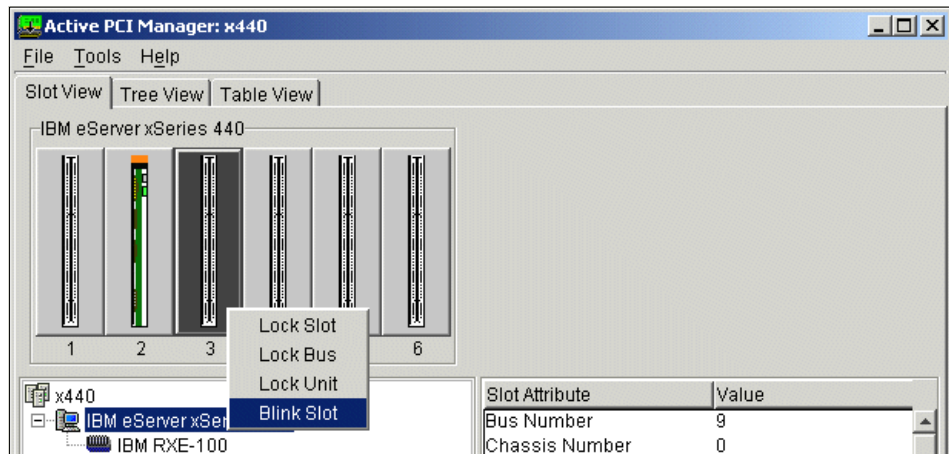

Figure 5-10 Blink Slot
6. From the slot view, select the slot that the Add Card Wizard recommended, then right-click the slot and click **Blink Slot**, as shown in Figure 5-10.
Lock options: There are lock options for a slot (see Figure 5-10). These will lock a slot, all of the slots on the bus that a slot is a member of, or the unit (the physical chassis or I/O expansion enclosure that a slot is a member of).